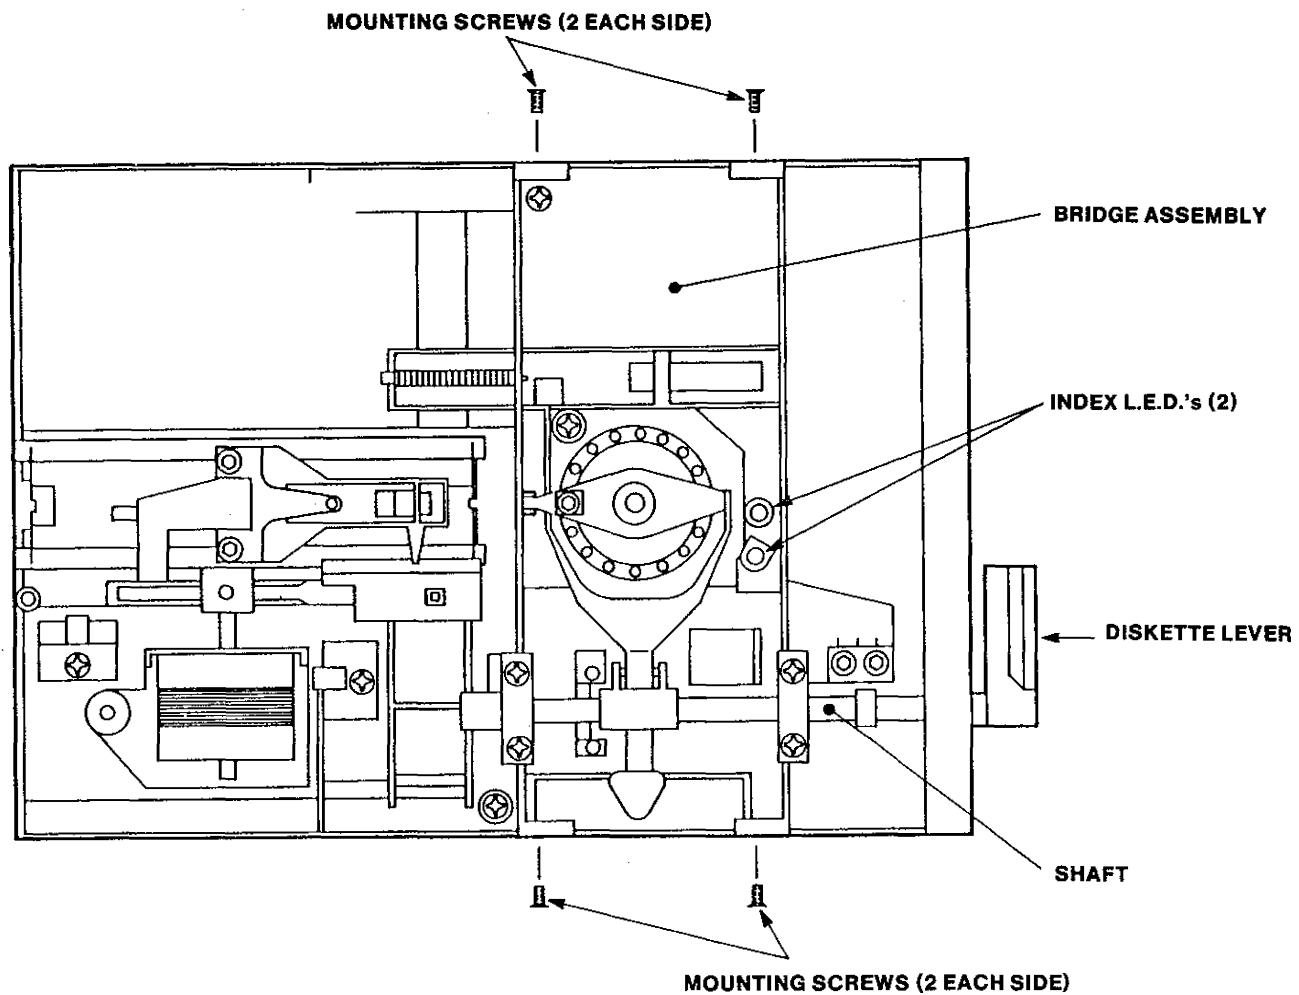

FIGURE 6-7
5. Carefully lift out the Bridge Assembly toward the back of the drive. The shaft must clear the front panel (Figure 6-7).